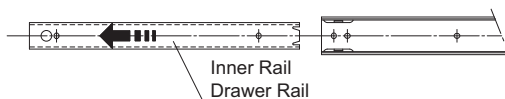

Fig.3
* For the following model numbers, mount outer rail after removing inner rail, as shown in Fig.3.